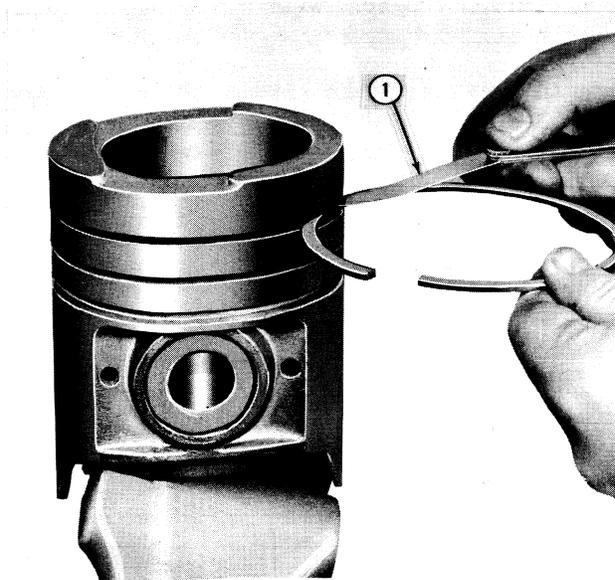

Figure 39
1. Inspect pistons for damage at the ring lands, skirts, and pin bosses. Check for separation of the top ring insert from the piston. Check for wear in the ring lands by using a new ring and a feeler gauge, as shown in Figure 39. The rings should have the clearances specified on page 66.